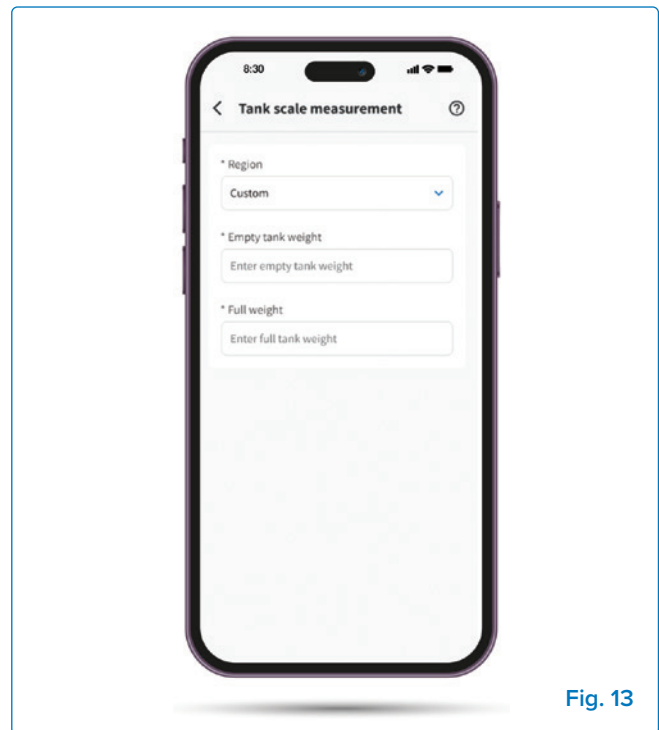

Fig. 13
- » **Custom Tank (Optional):** Enter the weight of an empty and full tank for accurate monitoring (**Fig. 13**).